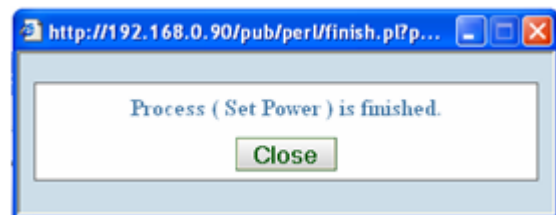

Figure 9
2. Click the [Close] button to close the process window, Figure 9, when the process is finished.